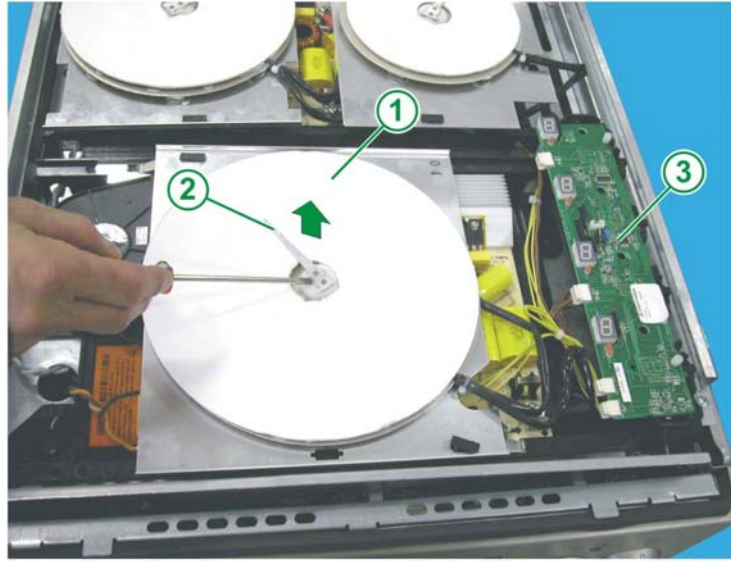

Fig. 59
1. Detach the retaining spring which secures the NTC thermal protector (see Fig. 59).